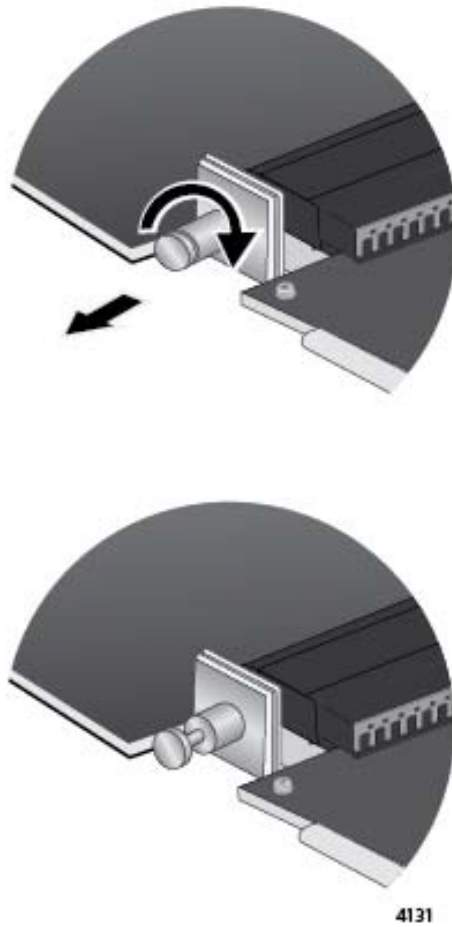

Figure 182. Retracting the Retaining Pin on the AT-SBx81XLEM Line Card
4. With your thumb and forefinger, pull out the retaining pin on the side of the line card and turn it clockwise one quarter turn until it remains in the retracted position. Refer to Figure 182.